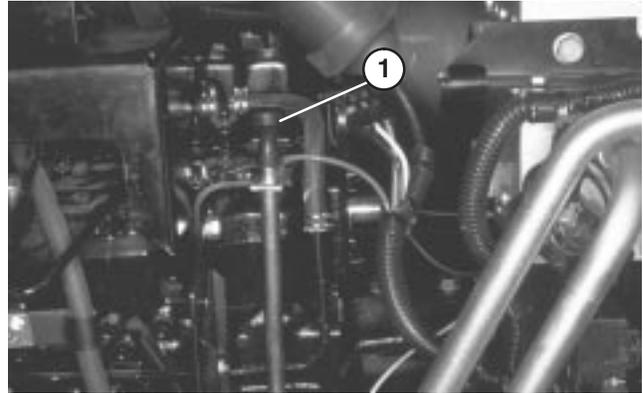
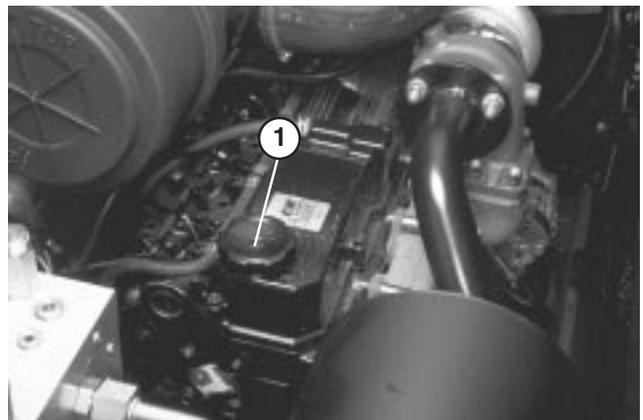

Figure 33
Figure 34
2. Remove dipstick, wipe with clean rag (Fig. 33) and fully re-insert in tube. Remove from tube and check oil level. Level should be between the marks on the dipstick. If level is low, remove filler cap (Fig. 34). Add oil until level is to top mark on dipstick. **DO NOT OVERFILL.**